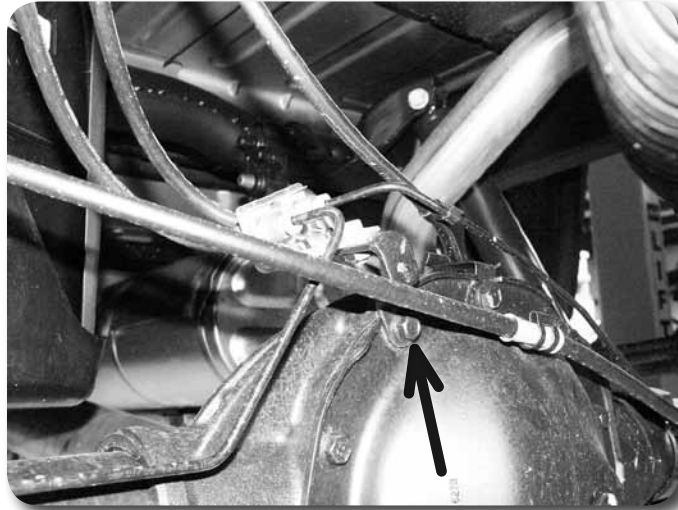

Figure 1
4. Disconnect the rear brake line bracket from the top of the differential **Figure 1**. Save hardware.